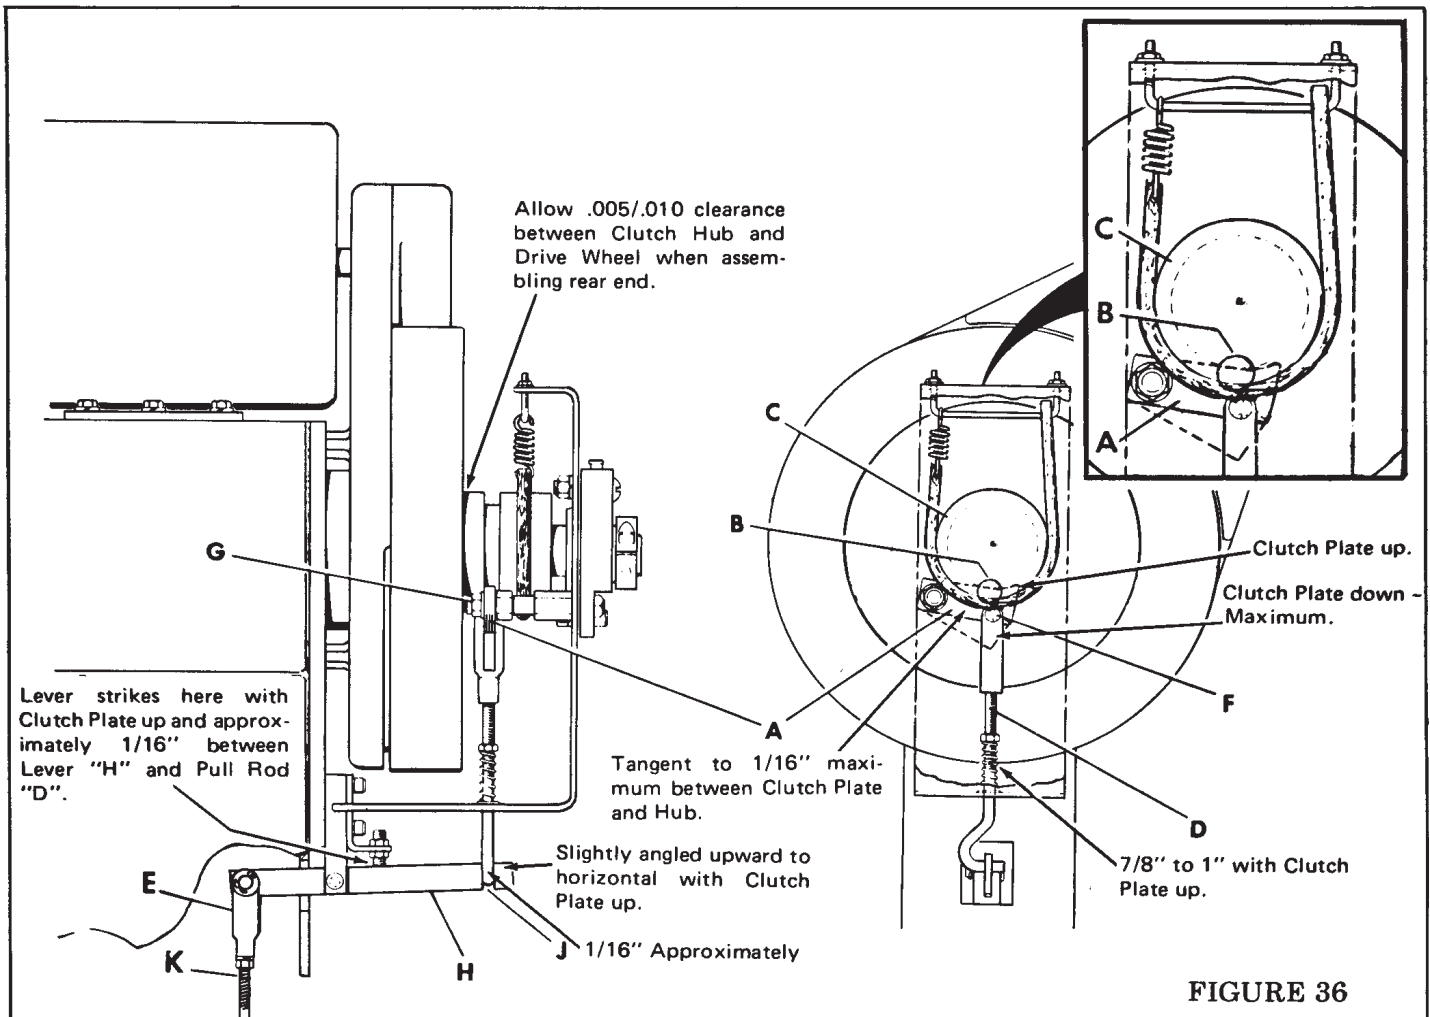

FIGURE 36
CLUTCH PLATE (See Figure 36)
Proper clutch plate adjustment requires the clutch plate to be activated by the pull rod (Index D) after the post is in stitching position. Proper adjustment of clutch activating parts is shown in Figure 36.
Infrequently the machine may fail to stitch because the clutch plate has raised a burr on the clutch pin or hub; a condition that will cause the clutch pin (Index B, Figure 36) to stick in the hub. Remove the burr to resume operations.
3. Press the foot pedal until it strikes the floor or frame. The clutch plate should now be lowered sufficiently to clear the clutch pin when the machine is running. The maximum lowered position being when there is a 1/16" gap between the clutch plate and the clutch hub (see Figure 36). If adjustment is required, turn lift rod "K" further out of clevis "E" to increase clutch plate travel and turn the lift rod further into the clevis to decrease clutch plate travel.